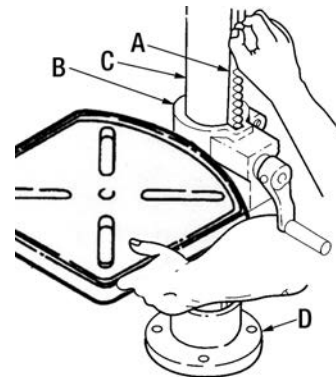

FIGURE 10
8. While holding the rack (A) Fig.10 and table support (B) in an engaged position, slide both down over the column (C). Slide rack down the column until the rack is positioned against the lower column support (D).